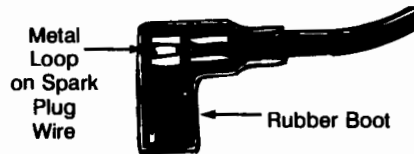

Figure 16
- Attach spark plug wire to spark plug. If unit is equipped with a rubber boot over the end of the spark plug wire, make certain the metal loop on the end of the spark plug wire (inside the rubber boot) is fastened securely over the metal tip on the spark plug. See figure 16.